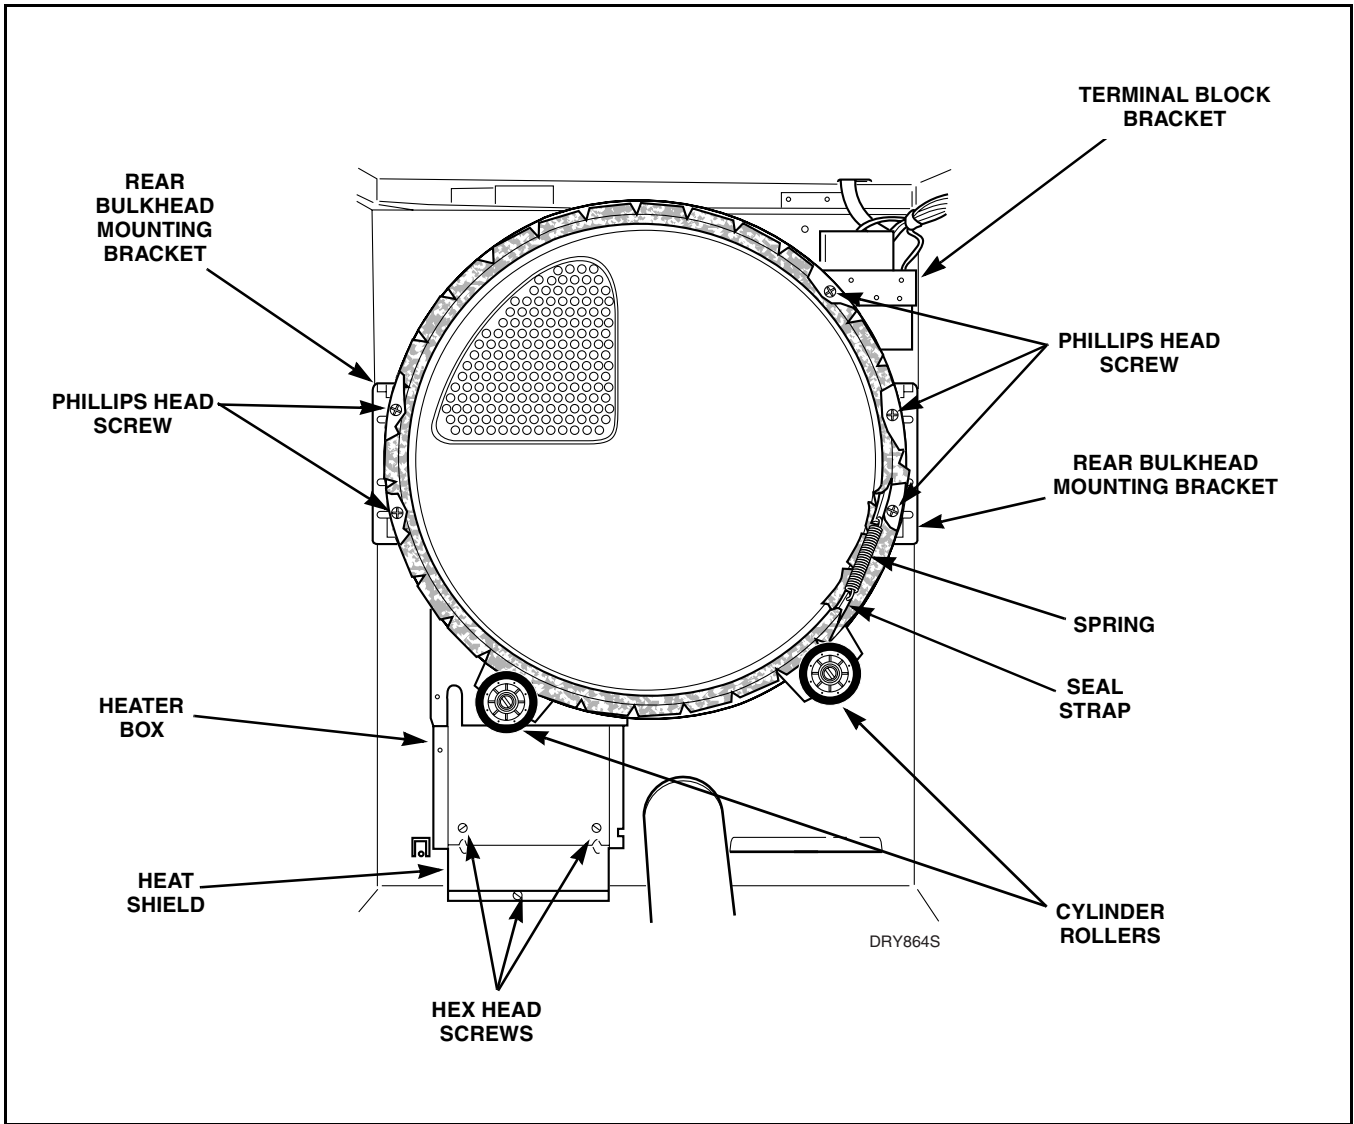

Figure 33
- Unhook spring from seal strap. Refer to *Figure 33*.
- d. Remove two hex head screws holding bottom end of heater box to heat shield. Refer to *Figure 33*.
- e. Remove Phillips head screw holding rear bulkhead to terminal block bracket and four Phillips head screws holding rear bulkhead to mounting brackets. Refer to *Figure 33*.
- d. Remove screws holding bottom end of heater box to heat shield. Refer to *Figure 33*.